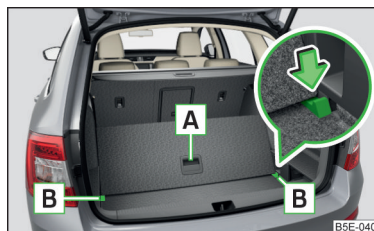

Fig. 128 Dividing the boot with variable loading floor
- › To **divide**, lift the variable loading floor by the handle **A** and push in the rear edge of the variable loading floor in the grooves **B** in the direction of the arrow » Fig. 128.